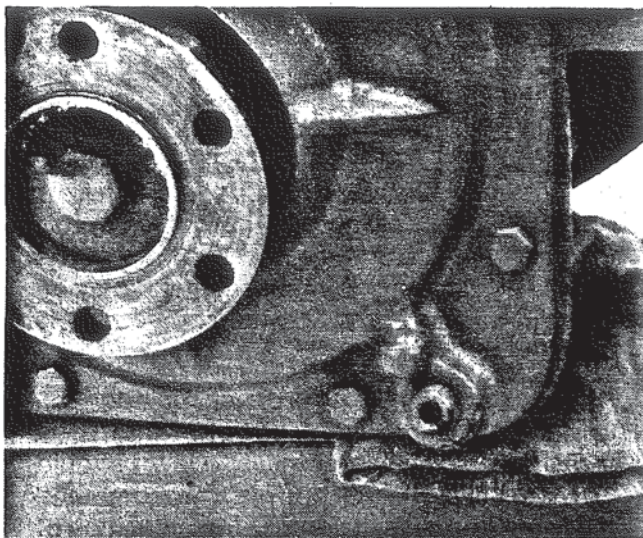

Figure 46. Installing Drain Plug.
1. **Drain Plug.** Install the drain plug and tighten securely. Figure 46.